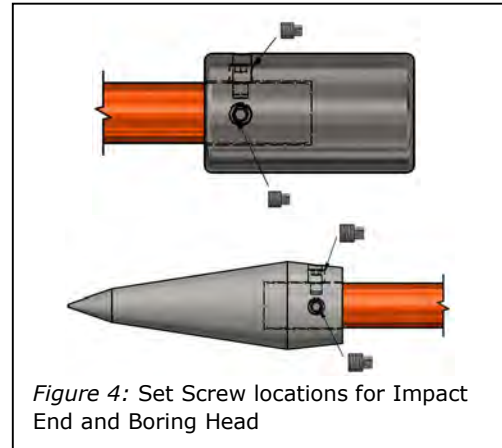

Figure 4: Set Screw locations for Impact End and Boring Head
- Repeat for Boring Head (Figure 4)